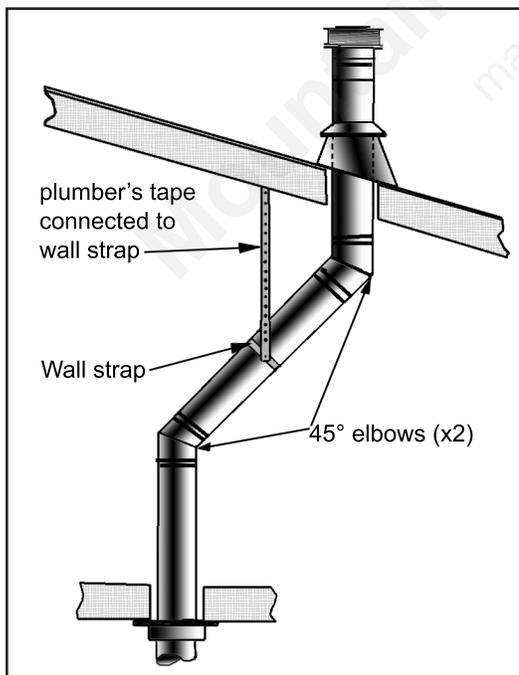

**Figure 31: Height of Vertical Termination; Reference Table 5.**
8. Continue to add pipe sections until the height of the vent cap meets the minimum code requirements. Refer to Figure 31 and Table 5. Note that for steep roof pitches, the vent height must be increased. In high wind conditions, nearby trees, adjoining roof lines, steep pitched roofs, and other similar factors can result in poor draft, or down drafting. In these cases, increasing the vent height may solve the problem.
**Table 5: Minimum 'H' for Figure 31.**